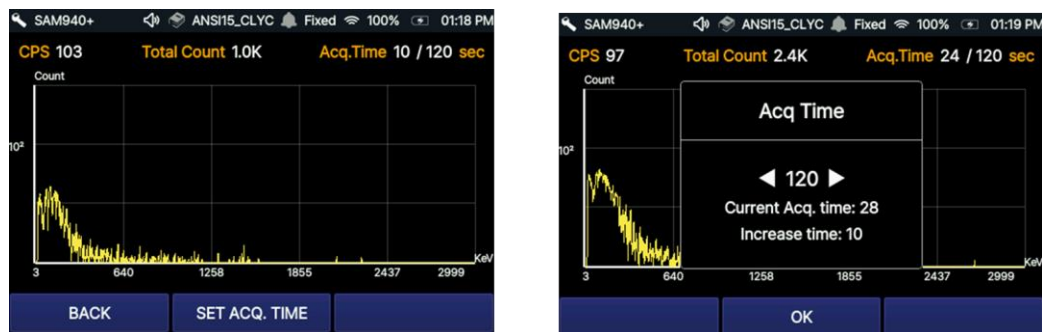

Figure 5.3.2. Background measurement and time setup
4. A spectrum will begin and will automatically update during the measurement (Figure 5.3.2.)
SET ACQ. TIME allows user to manually increase/decrease background measurement time as shown in figure 5.3.2.